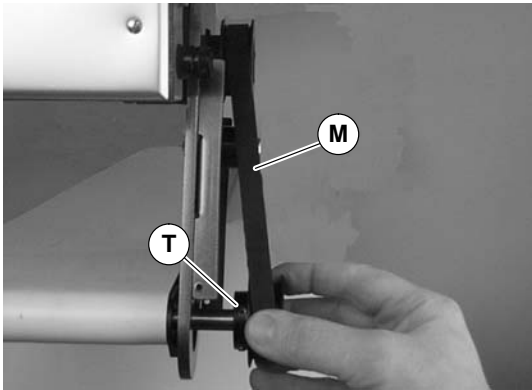

Figure 20
5. Remove timing belt (M of Figure 20).
NOTE: If timing belt does not slide over pulley flange, loosen driven pulley set screws (T of Figure 20) and remove pulley with belt (M). For re-installation, see steps 6 through 9 on page 7.